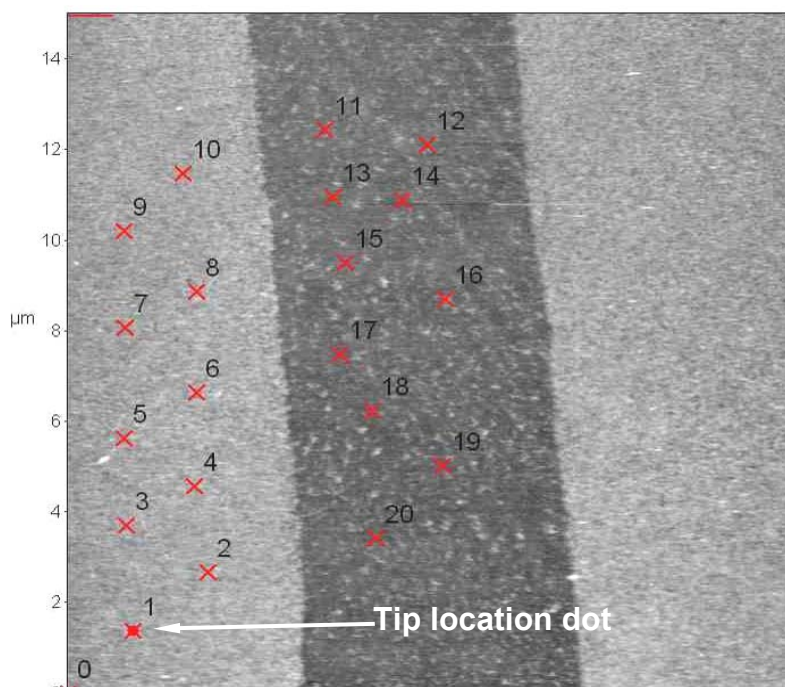

Figure 29: Point and click Force curves
- ✓ When finished, you can enter what point you to return to for force curve acquisition, hit 'Go There' button. The red dot should move to that cross hair (see point 1 in Figure 29).